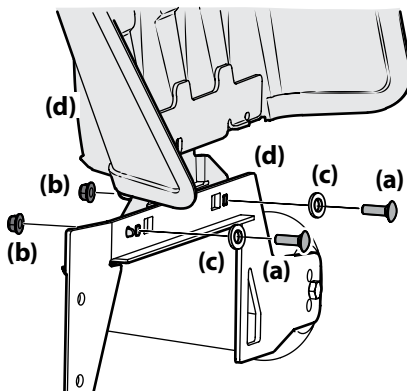

Figure 2-5
1. Remove the carriage screws (a), flange lock nuts (b) and flat washers (c) installed on the mounting bracket (d) on the deck. See Figure 2-5.
2. With the previously removed hardware (a & b), install the discharge chute assembly (d) on the deck as shown in Figure 2-5.